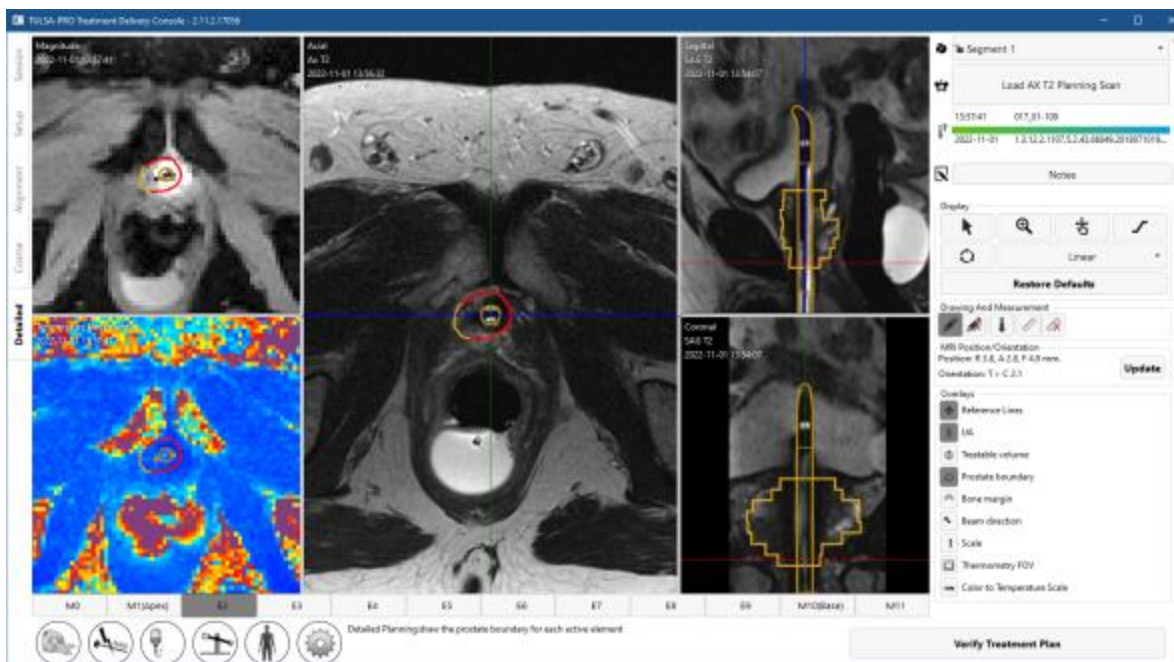

Figure 37: Detailed Planning after drawing boundaries
- To draw the prostate boundary, select the drawing tool and outline the tissue to be ablated on each slice based on the corresponding AX T2 and THERM magnitude images (Figure 37). You can select individual slices by clicking on the numbered tab at the bottom of the screen or by pressing the left and right arrow keys on the keyboard. Use the sagittal and coronal views of the SAG T2 images to verify the intended ablation zone in three dimensions.